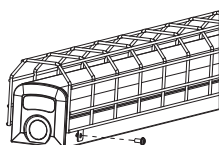

Fig 5
1. Align the mounting holes on the housing and wire guard, then screw in place as shown in Fig.5.